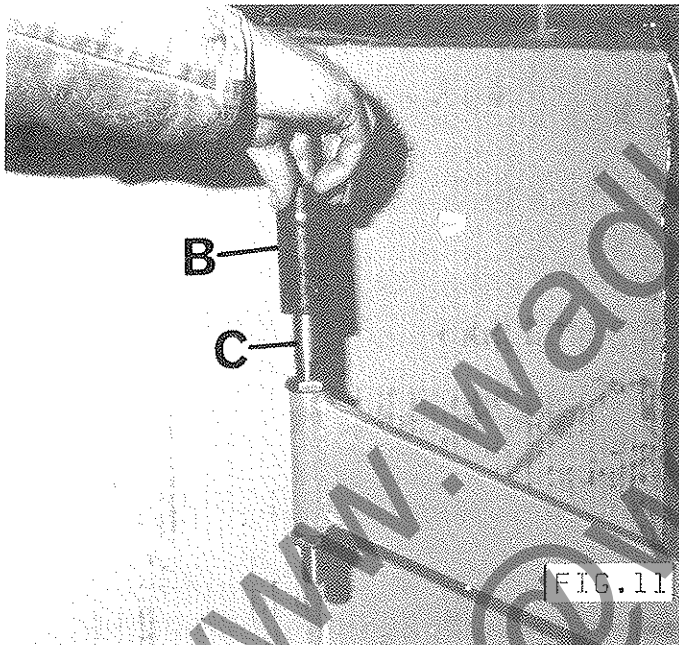

FIG. 11
- 1) Position plastic support 'B' FIG.11, on swinging arm pin 'C'.